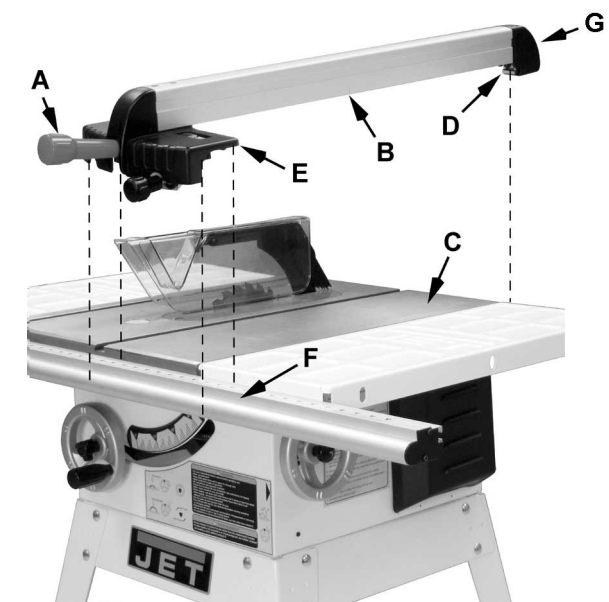
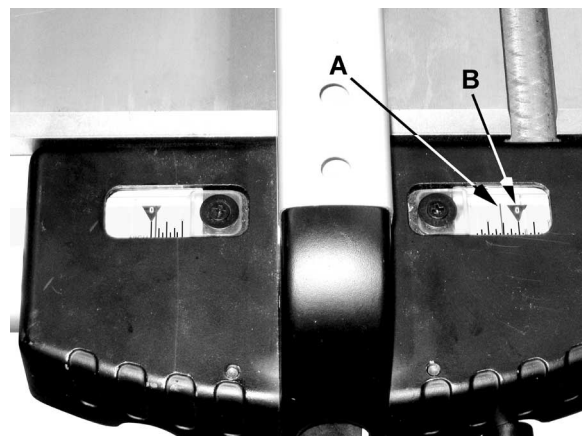

Figure 17
Figure 18
Referring to Figure 17:
3. With a 12mm wrench, slightly loosen the six hex nuts that secure the *front rail* (F) to the *table* (C) and *extension wings*.
4. Adjust the position of the front rail so the red *hairline indicator* (A, Fig. 17) on the fence scale lines up with 0" (B, Fig. 18) on the rail. Remember to keep the fence snug against the saw blade.